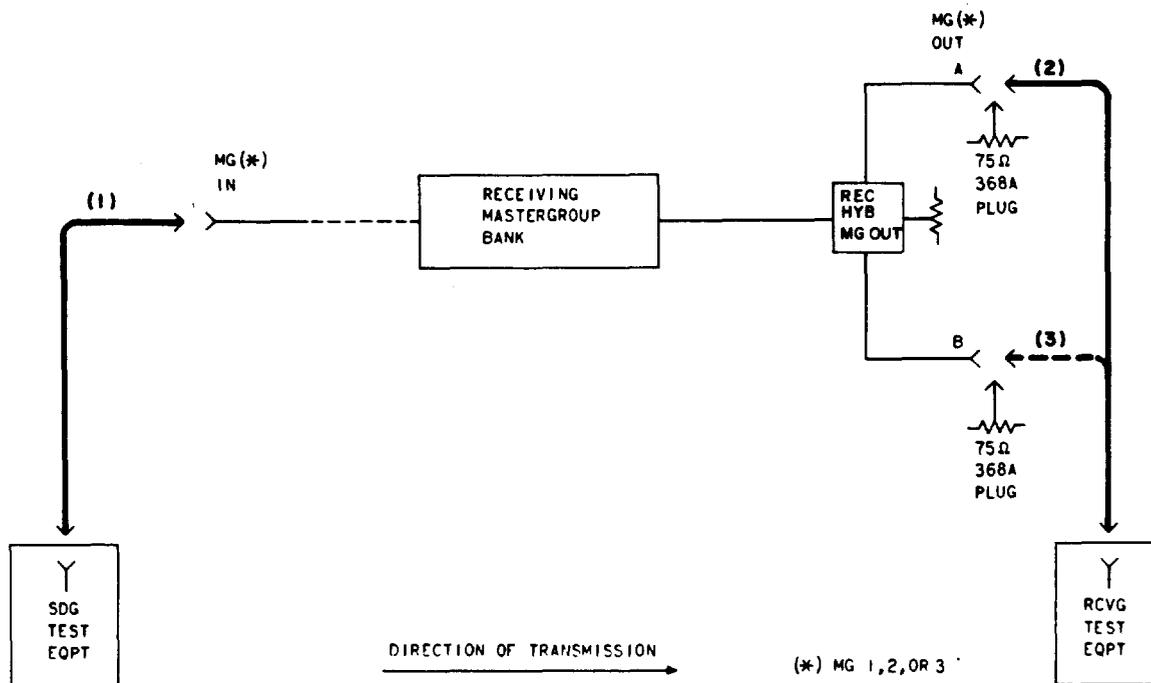

Fig. 1—Testing Arrangement
- 4 Connect the STE to the MG( ) IN jack [patch (1), Fig. 1].
- 5 Connect the RTE to the MG( ) OUT A jack [patch (2), Fig. 1].
- 20 Disconnect the RTE from the MG( ) A OUT jack [patch (2), Fig. 1].
- 23 Connect the RTE to the MG( ) OUT B jack [patch (3), Fig. 1].
25	Disconnect the RTE from the MG( ) OUT B jack [patch (3), Fig. 1].
28	Proceed to Chart 2 if the passband tests are to be made. If the passband tests will not be made, disconnect the STE from the mastergroup bank circuit under test [patch (1), Fig. 1].
1	Connect the RTE to the MG ( ) OUT A jack [patch (2), Fig. 1].
15	<p>Disconnect the STE and RTE from the mastergroup bank circuit under test [patches (1) and (2), Fig. 1].</p>
22	Disconnect the STE and RTE from the mastergroup bank circuit under test [patches (1) and (3), Fig. 1].